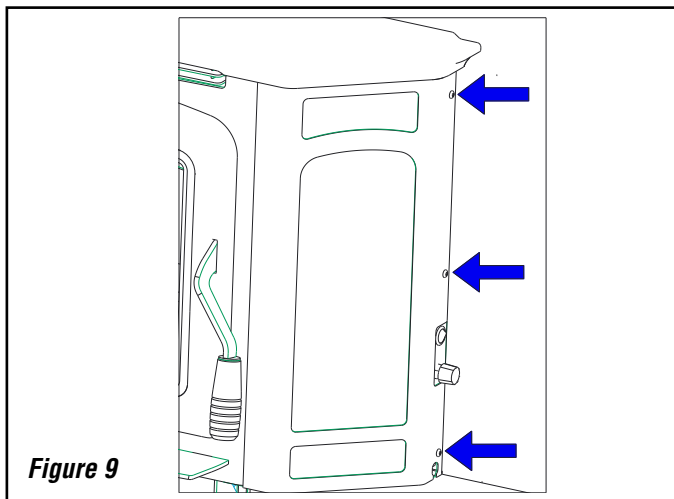

Figure 9
Step 10. Reattach the right side façade onto unit with the three 1/8" hex screws. See **Figure 9**.